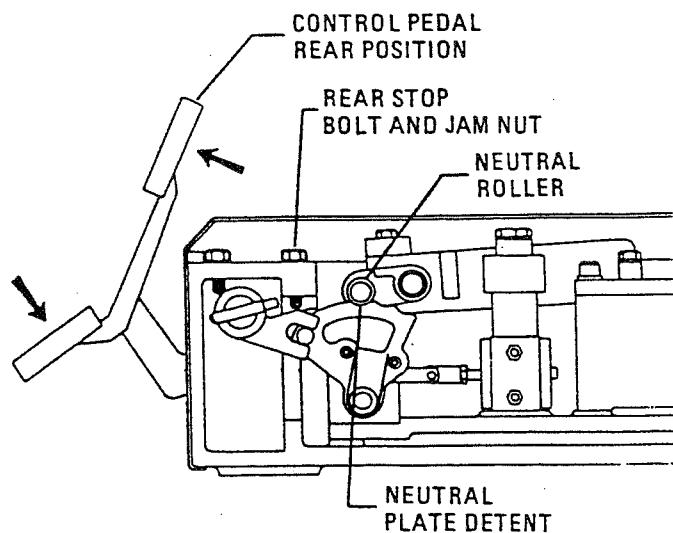

Figure 1-33.
6. Adjust the pedal rear stop bolt, if necessary, so that the roller rests in the middle of the detent. It should not go more than 1/16" past the middle. See figure 1-33.